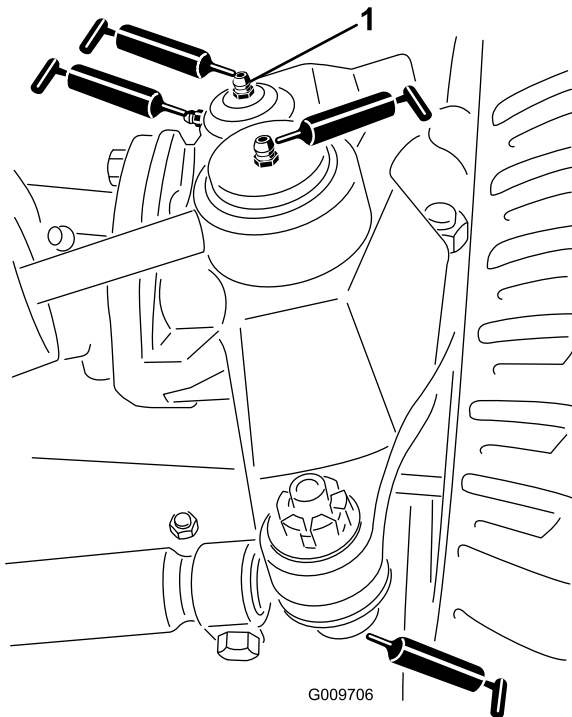

Figure 45
- Steering-cylinder ball joints (2) as shown in Figure 45
- Tie-rod ball joints (2) as shown in Figure 45
- Kingpin bushings (2) as shown in Figure 45